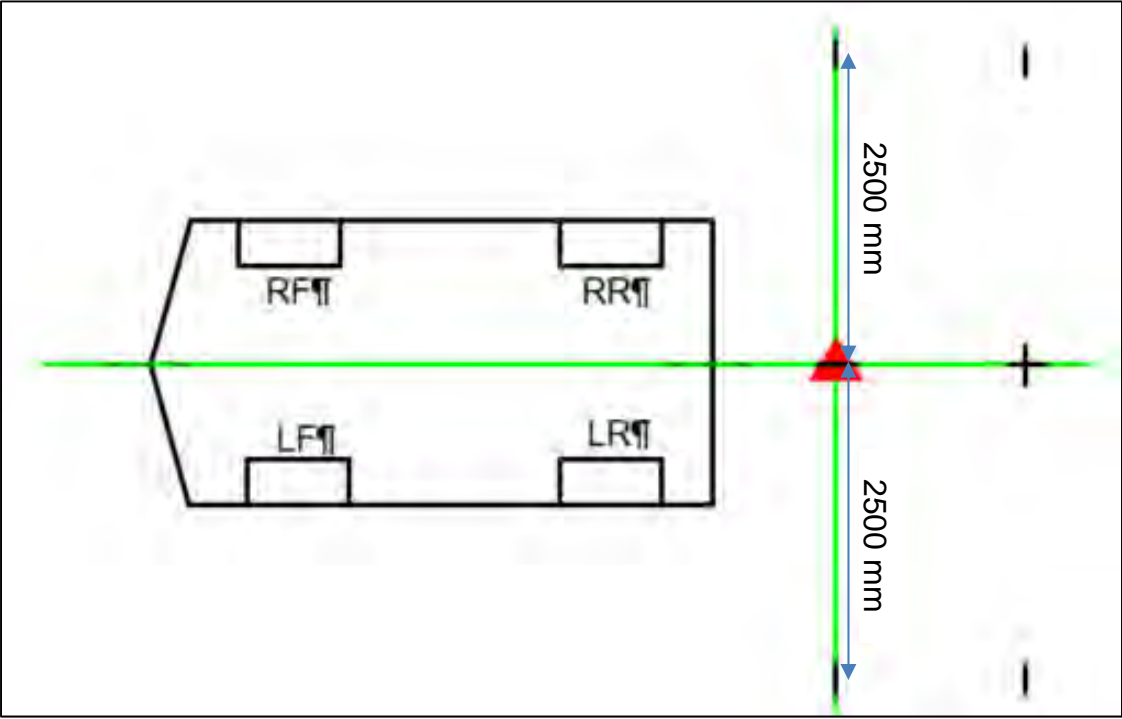
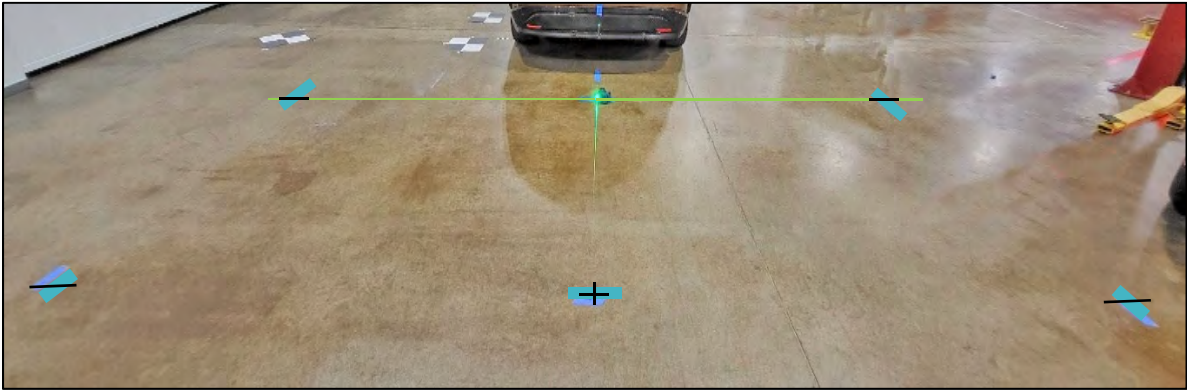

Figure 80
Figure 81
53. Move the laser to the 500 mm mark, and then measure and place a mark 2500 mm to the left and to the right of the laser level, as shown in Figure 80 and Figure 81.